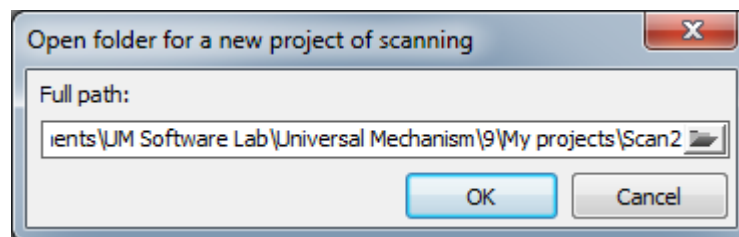

Figure 2.2. New project dialog
3. Input the full path to the scanning project, including project name, see Figure 2.2.